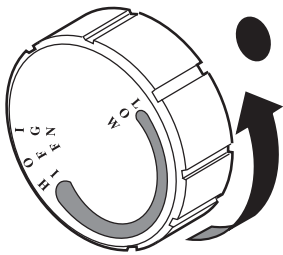

**Figure 32 -
6. Turn the gas control knob counterclockwise ↺ to the IGN position. *Figure 32*. Push in and hold control knob for 5 seconds.
10. Turn control knob to any position between LOW and HIGH. The knob position controls the thermostat temperature. *Figure 32*